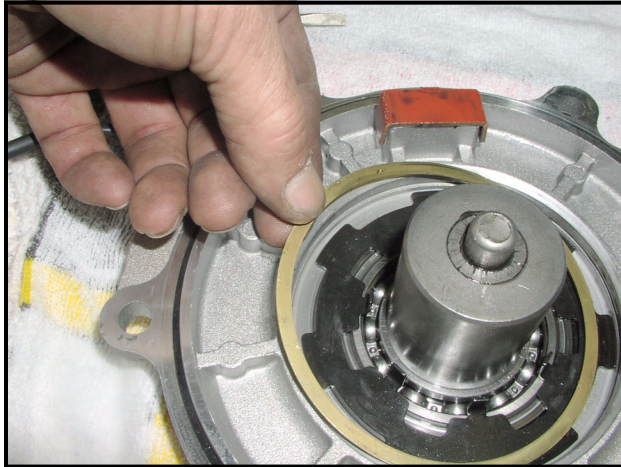

Figure 9-10 Armature Plate Shim
4. Remove armature plate shim (**Figure 9-10, Page 9-5**).
3. Install the armature plate shim (**Figure 9-10, Page 9-5**).